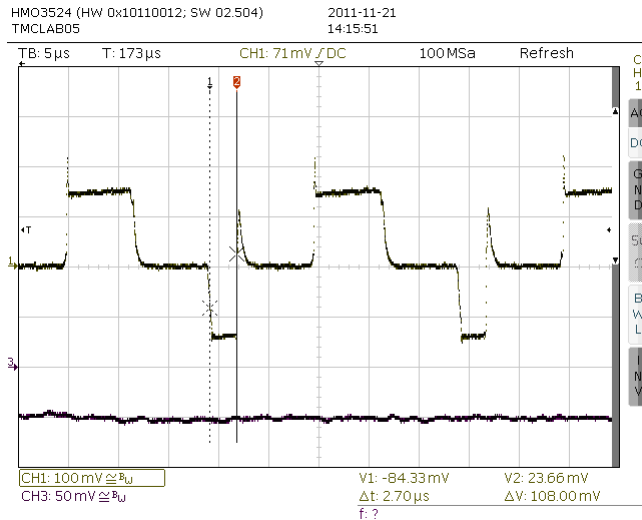

Figure 4 Measure the duration of the fast decay state (2.7µs): CH1: sense resistor voltage, CH3: coil current
1. Stop the motor at a position, where one coil current has a medium value, e.g. at a fullstep position. Attach the oscilloscope probe and measure sense resistor voltage to GND. Take a single shot of one or a few chopper cycles as shown in Figure 4 (showing a chopper operating at 40kHz).